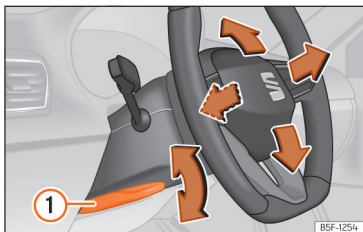

Fig. 71 Lever in the lower left side of the steering column.
- Pull lever »» Fig. 71 ① down, move the steering wheel to the desired position and lift the lever back up until it locks.
- After adjusting the steering column, push lever »» Fig. 71 ① firmly upwards so that the steering wheel does not accidentally change position while driving.